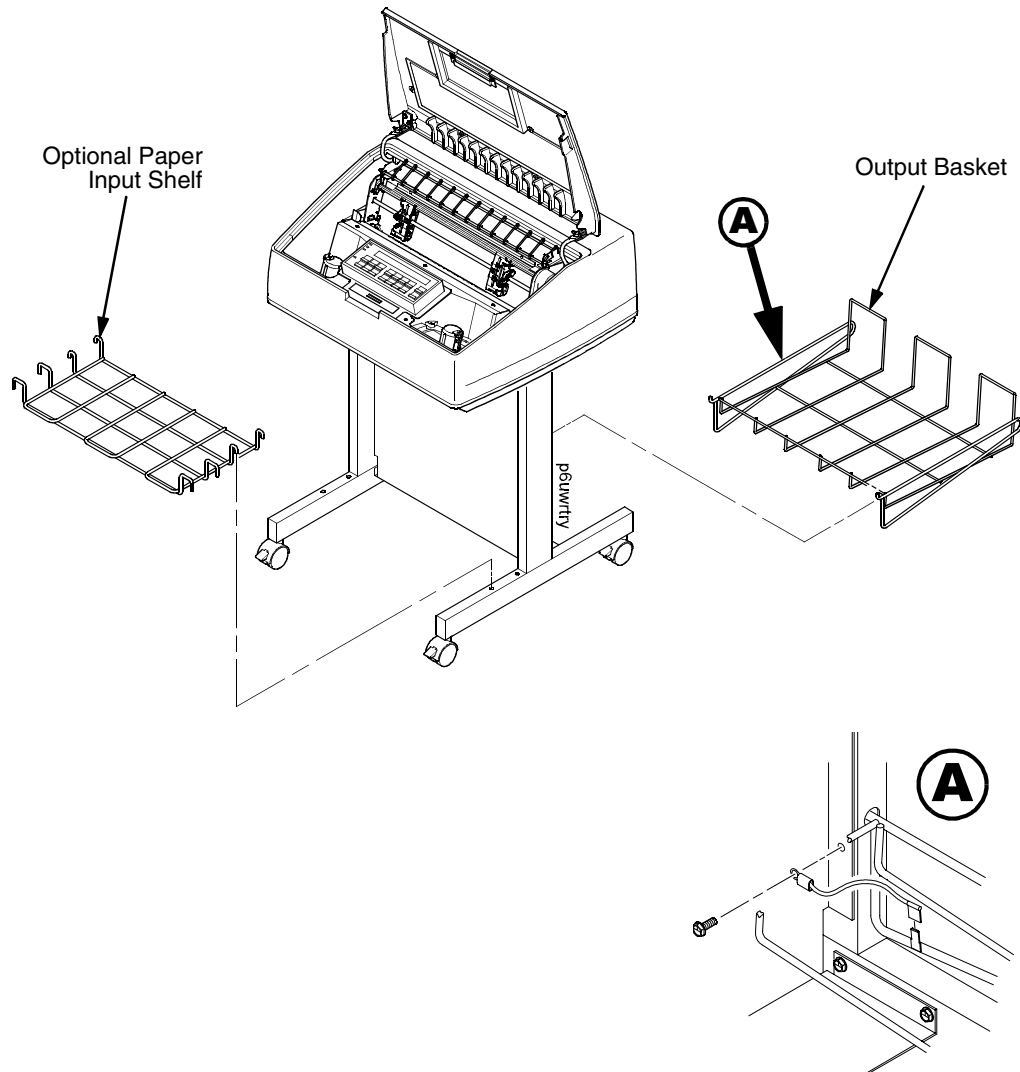

Figure 17. Attaching the Input Paper Shelf and Output Basket
1. Slide the two paper supports toward the center of the support shaft. Position them so that they divide the space between the tractors into three equal segments. See Figure 17.
2. Place the output basket in the holes on the back of the printer and attach the ground strap as shown in Figure 17, detail A.